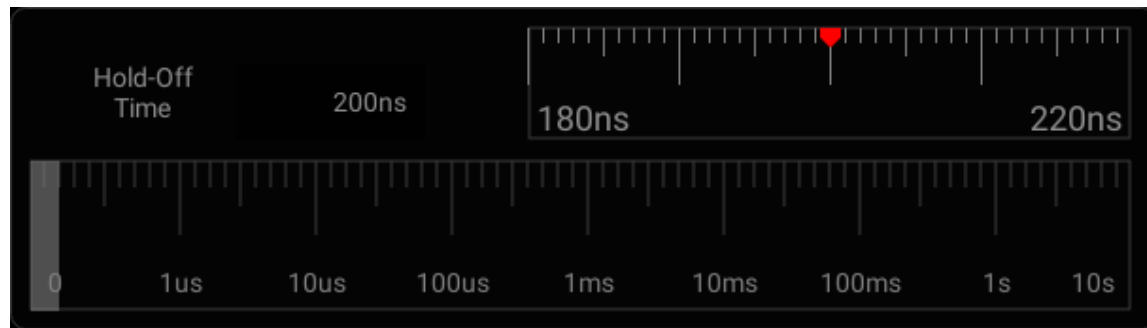

Figure 7-11 Trigger Hold-Off Time Set Interface
- 1) Tap “Trigger” on the main menu to open the trigger menu. Under “Common”, tap the box after “Rejection Time” to open the hold-off time adjustment interface. The trigger time is displayed on the upper left, the fine adjustment time scale is displayed on the upper right, and the coarse time scale is displayed below, as shown in Figure 7-11.
- 1) Tap “Trigger” on the main menu to open the trigger menu, select edge trigger in the trigger type, and set edge trigger as follows, as shown in Figure 7-11: